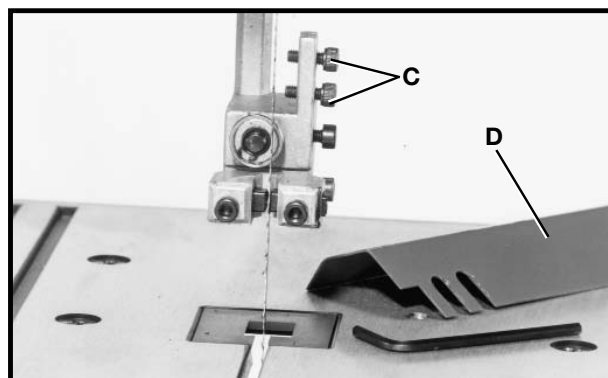

Fig. 35
2. Loosen two screws (C) Fig. 35, and remove blade guard (D).